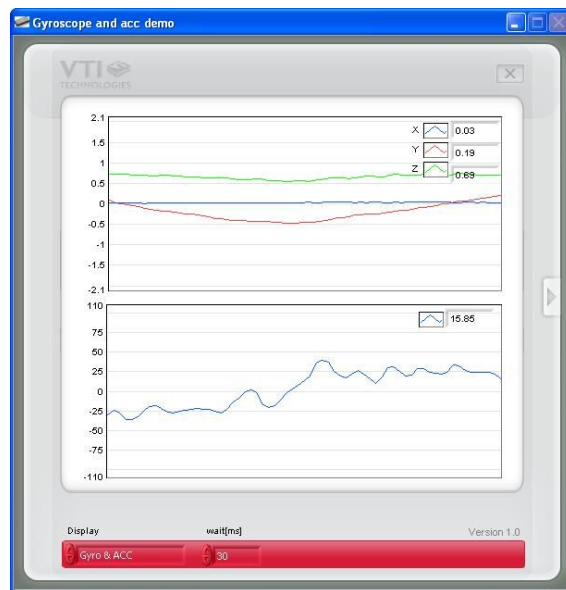

Figure 5. Gyro & ACC display.
**Gyro & ACC**, continuously scrolling gyro output and X, Y, Z accelerations, see Figure 5. Angular rate is presented in [ $^{\circ}$ /s] and acceleration in [g]. User can: